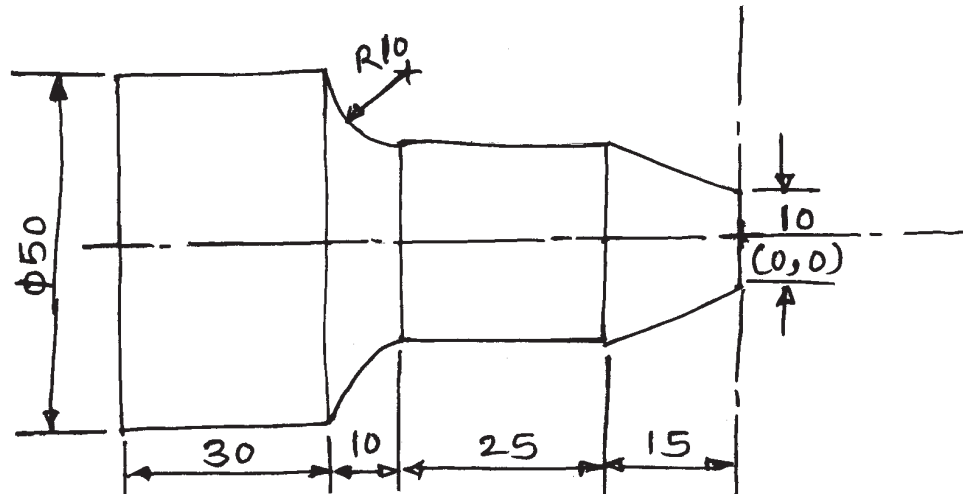

Fig. No. 1
- a) Prepare the Part Program for the workpiece shown in Fig. No. 1